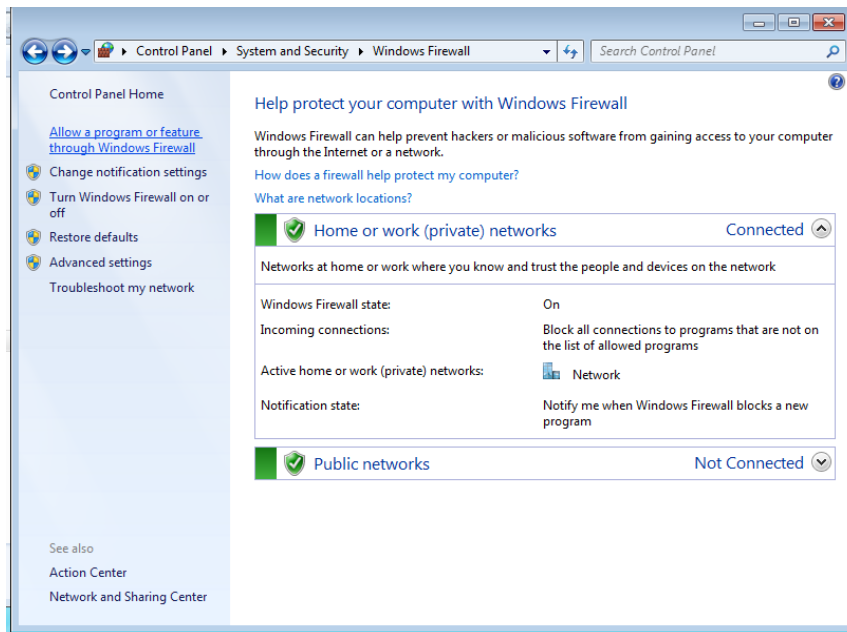

Fig.1.19 Windows Firewall
(4)Click “Allow a program or feature through Windows Firewall” (see Fig.1.19).